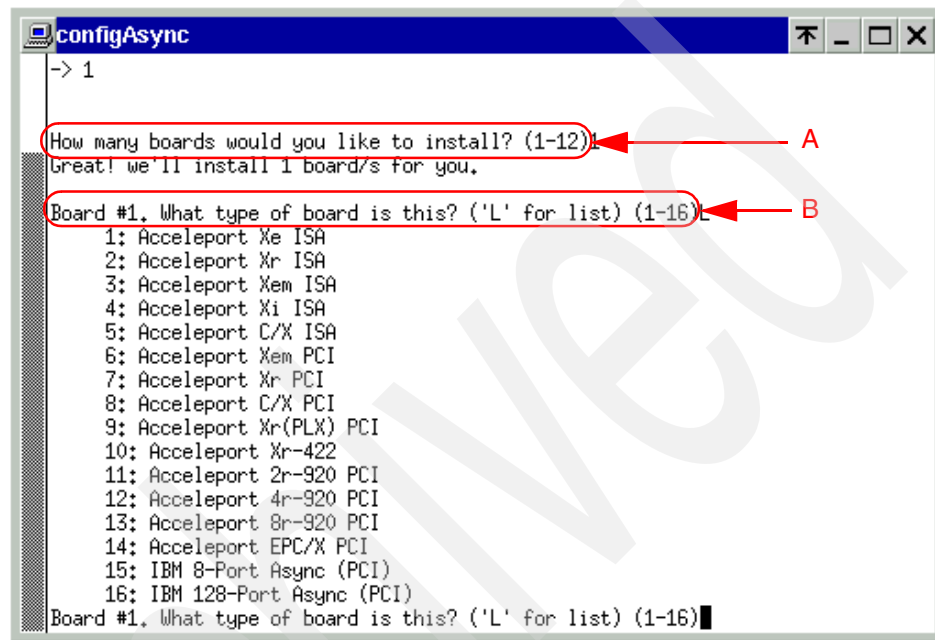

Figure A-4 Specify number of adapters and adapter type
2. The following message is displayed in the window, as indicated by A in Figure A-4 on page 300:
3. The following message is displayed in the window, as indicated by B in Figure A-4:
2. The following message is displayed in the window as indicated by A in Figure A-4 on page 300:
3. The following message is displayed in the window, as indicated by B in Figure A-4 on page 300: